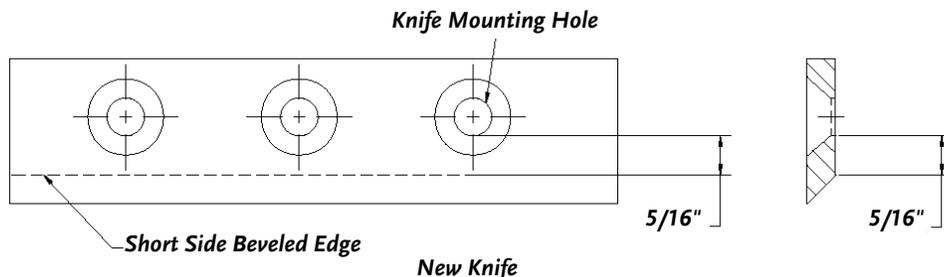

Figure 17
- A new Chipper Knife has $5/16"$ measurement between the short side bevel edge and the Knife mounting holes. See **Figure 17**.